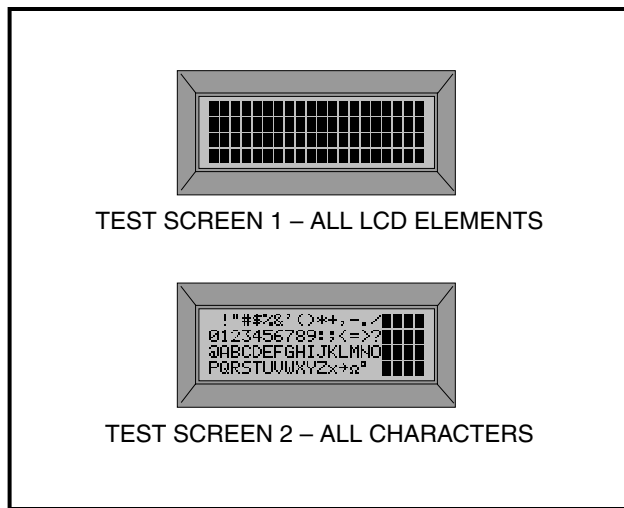

Figure 27 LCD Display Test Screens
5. Use the SCROLL DISPLAY buttons to toggle between the two display screens (**Figure 27**).